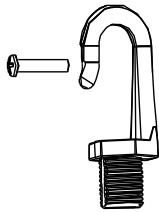

FIG. 1
2. Find the Hook accessory as Fig. 1 shows from bag.